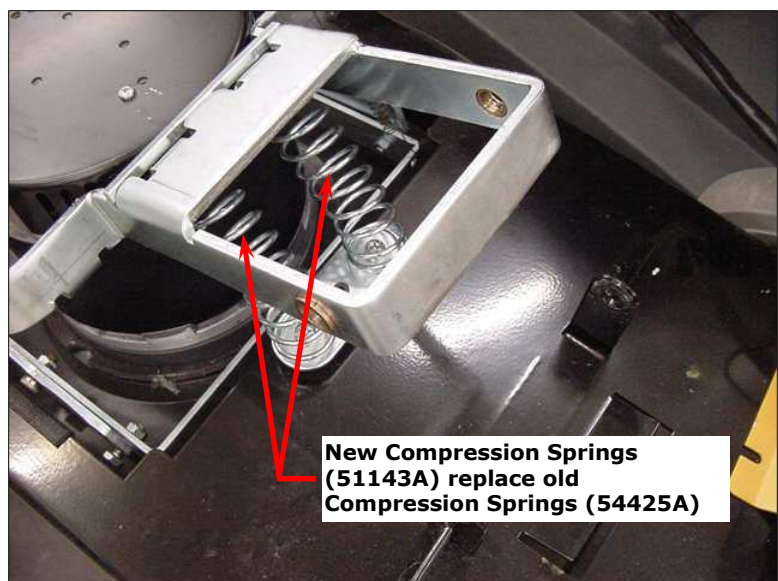

Figure 18 – Compression Springs
- 13.** See Figure 18. Replace the existing compression springs with the new compression springs, p/n 51143A.